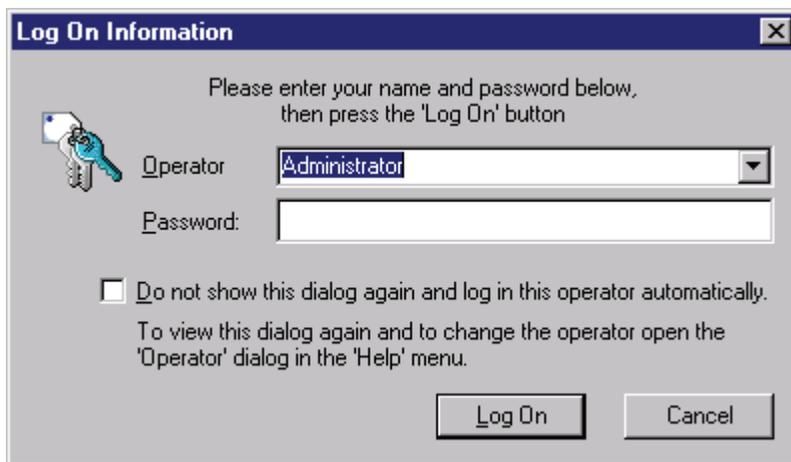

Figure 1 Login Information Dialog
The program has three different display windows („Work Table“, „Chromatogram/Spectrum“ and „Calibration“, description see below), which can be displayed individually or all together („Nested View“). To toggle between the display modes click on the corresponding tags at the bottom of the screen (red ellipse, **fig. 1**). On ending QuantAnalysis the actual display mode remains active and shows up on the next program start.
The „Nested view“ can be adjusted by dragging the border lines between the windows (blue arrows, fig. 1). After the first start of the program it may happen that the „Nested view“ seems to show only one of the three windows. In this case please rearrange the border lines to get an appropriate view.
- Switch to the full-screen display for the work table (red ellipse in **fig. 1**).